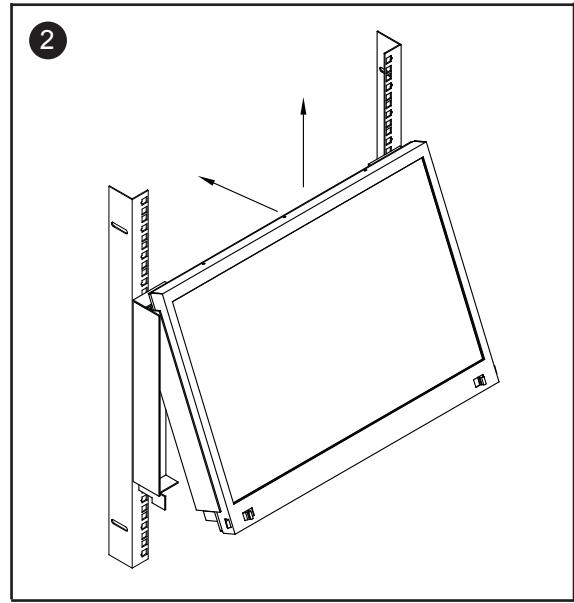

Figure 4.
■ Insert the upper part of the LCD display to the rack shown in Figure 4.